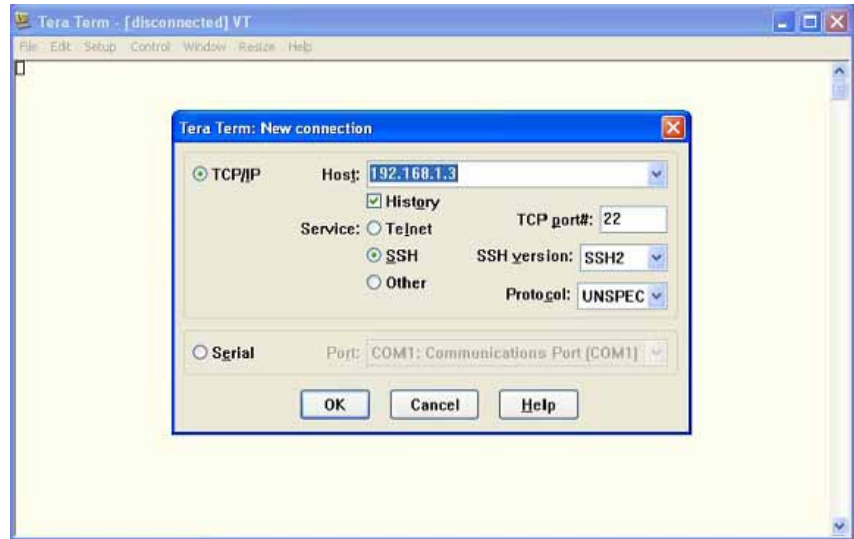

Figure 6-15: Tera Term New Connection Screen
17. Once the Tera Term Setup is installed, the New Connection screen appears (Figure 6-15).